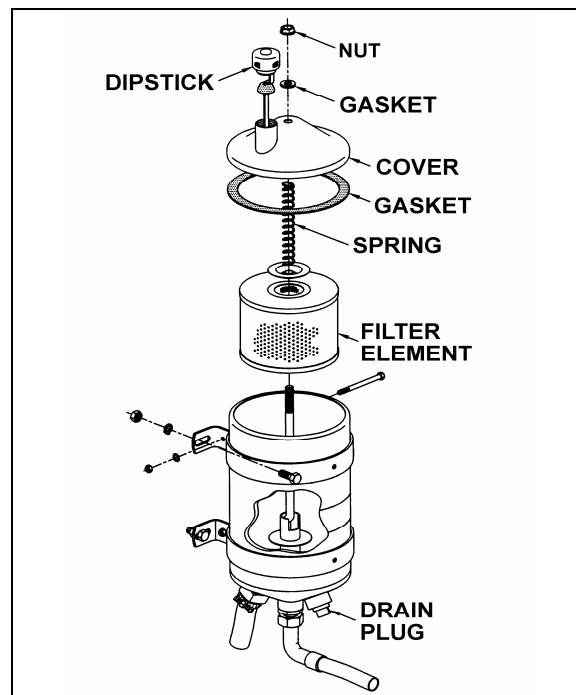

FIGURE 20: POWER STEERING FLUID RESERVOIR
3. Insert dipstick in reservoir. Remove it again to check fluid level (Fig. 20).